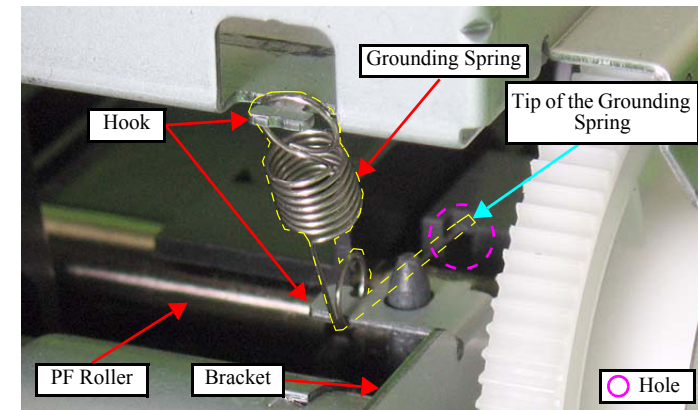

Figure 4-68. Removing the PF Motor (2)
- Install the Grounding Spring as follows: (See Fig.4-68.)